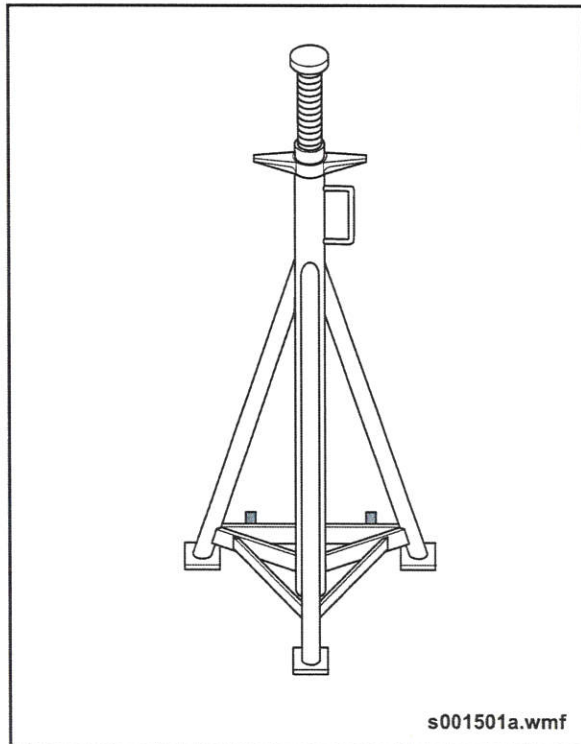

Fig. GI-18: Jack Stand
9. Position a jack stand squarely under each reinforced jacking point on the frame. Each jack stand must have a minimum weight bearing capacity of 12,000 lbs. (5,443 kg). See "Fig. GI-18: Jack Stand" on page 39.